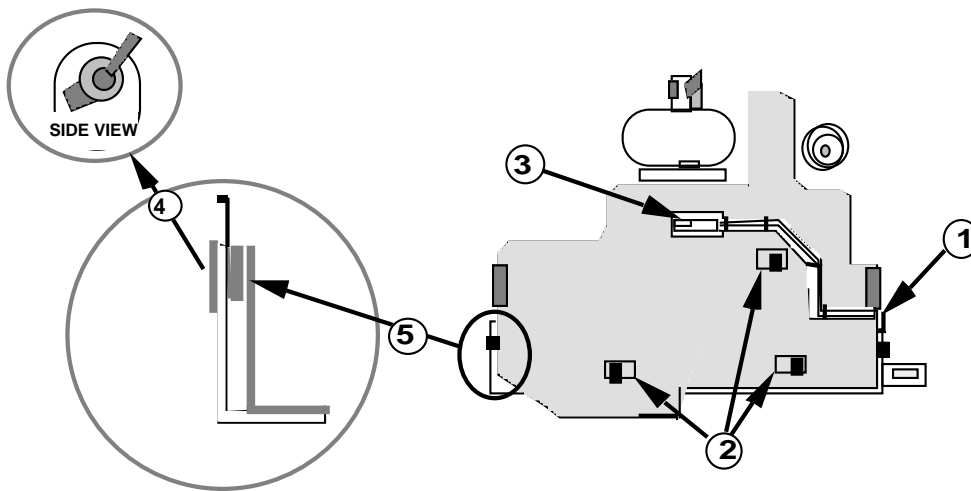

FIGURE 10
2. Gently position and push the ribbon-detect switch into the top of the ribbon plate (Figure 10, #3).
3. Reinstall the wires under the retainers and the bracket (Figure 10, #1).
4. Position the ribbon plate so that the front two tabs on the side have the ridge of the color ribbon assembly between them. Line up the tabs on the gear plate with the top of the ribbon plate (Figure 10, #2), and push the ribbon plate down. It will click into position.
5. Replace the two small plastic pieces with the catches on them. Slide the piece for the left side (Figure 10, #4) over the left side of the ribbon plate and carrier assembly. Rotate the piece until the black catch pops into the hole on the carrier assembly (Figure 10, #5). Repeat this step for the other piece on the right side.